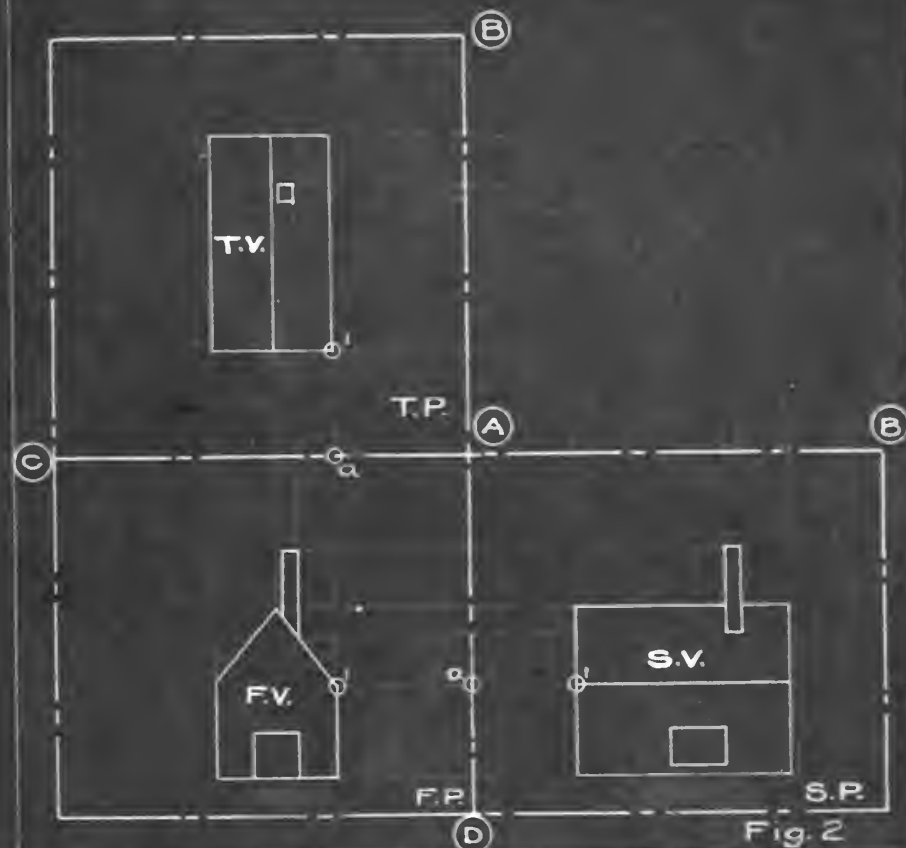

Fig. 2
5. Consider the PLANES OF PROJECTION to be separated along AB. Turn T.P. on AC and S.P. on AD and spread all three planes out flat. The resulting location of the views will be as in Fig. 2.